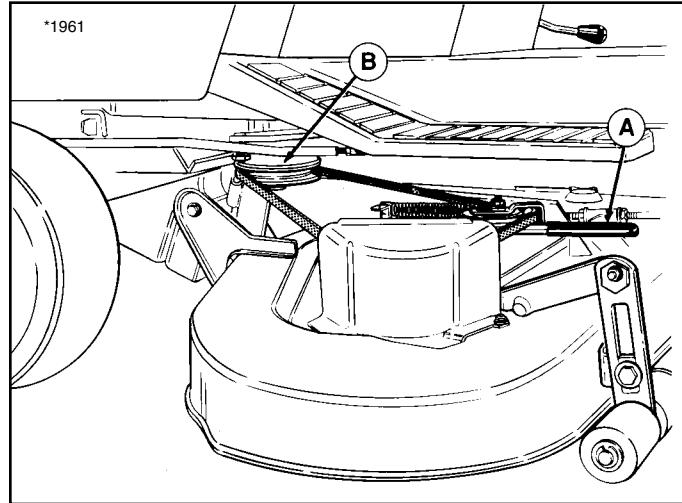

Figure 9. Installing Belt
5. Pull/Push back on spring-loaded idler arm (A, Figure 9) and remove the belt from the PTO pulley.